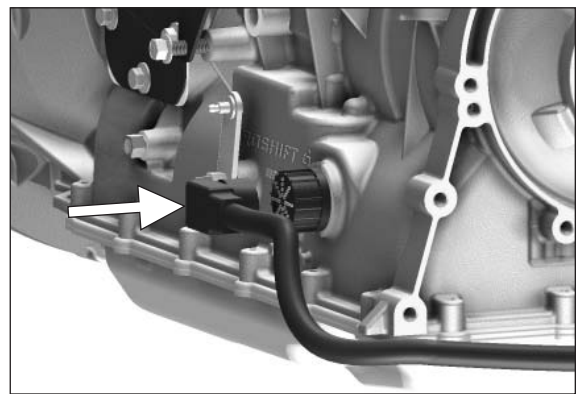

Figure 59
19. Reinstall the transmission electrical connection plug. Verify that the connector has a tactile click when reinstalling the connector. Failure to properly reinstall the connector can lead to transmission issues (**Fig. 59**) (**249V**).